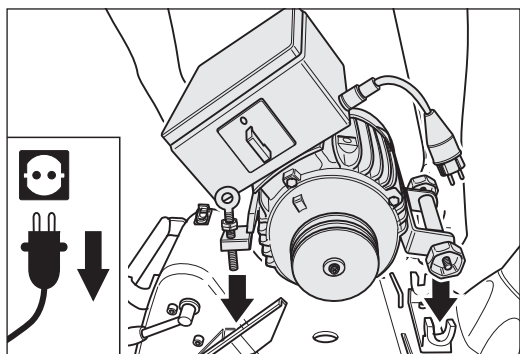
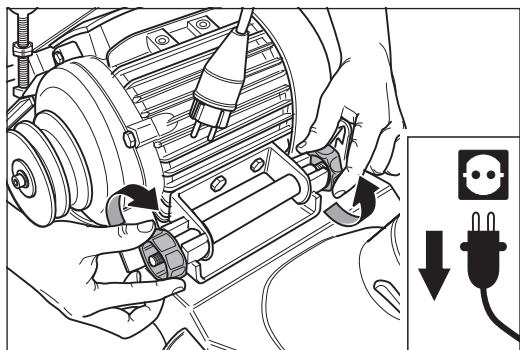

Fig. 32 Put the motor into the motor bearing bracket.
Fig. 33 Tighten the two motor nuts.
- 1 Put the motor into the motor bearing bracket (Fig. 32) and tighten the two motor nuts (Fig. 33).